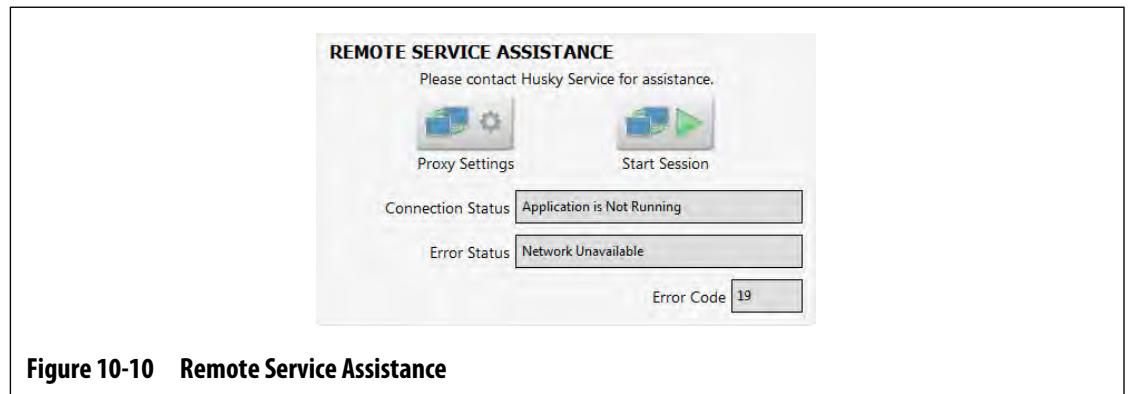

Figure 10-10 Remote Service Assistance
2. Touch the **Start Session** button in the Remote Service Assistance panel of the screen. Refer to Figure 10-10.